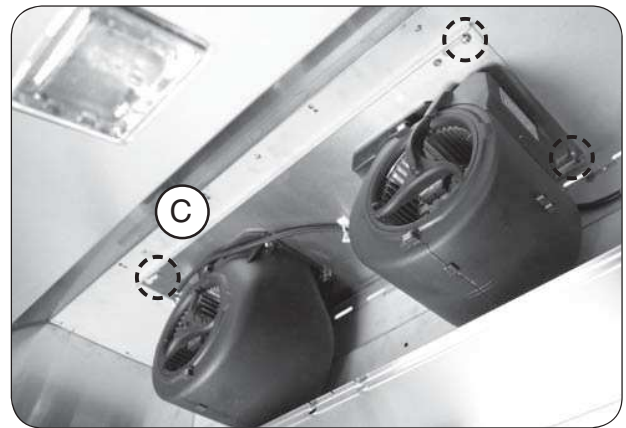

Fig. 16-2 Fasten (4) nuts to secure
4. Fasten the (4) nuts to secure the fan assembly in place (see Fig. 16-2, C).